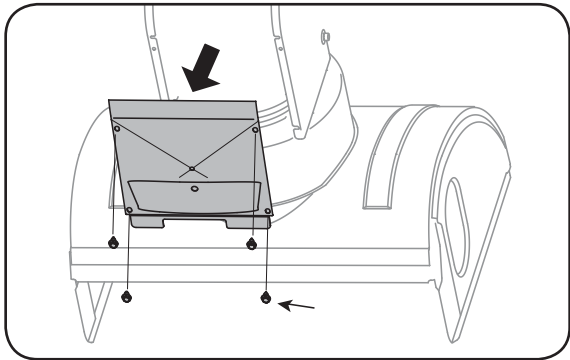

Figure 6-5
2. Tip the snow thrower up and forward so that it rests on its auger housing. Refer to Figure 6-5.
2. Tip the snow thrower up and forward so that it rests on the auger housing. See Figure 6-5.
1. Tip the snow thrower up and forward, so that it rests on the housing. See Figure 6-5.